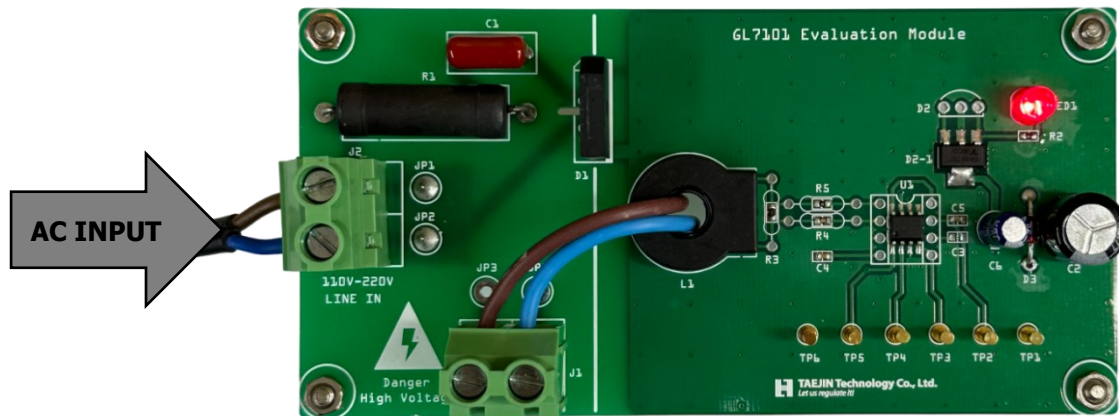

Figure 3. Check normal operation of GL7101
Step 5. Check the LED1. If the LED1 turns on, it means the GL7101 is operating normally. (Figure 3.)